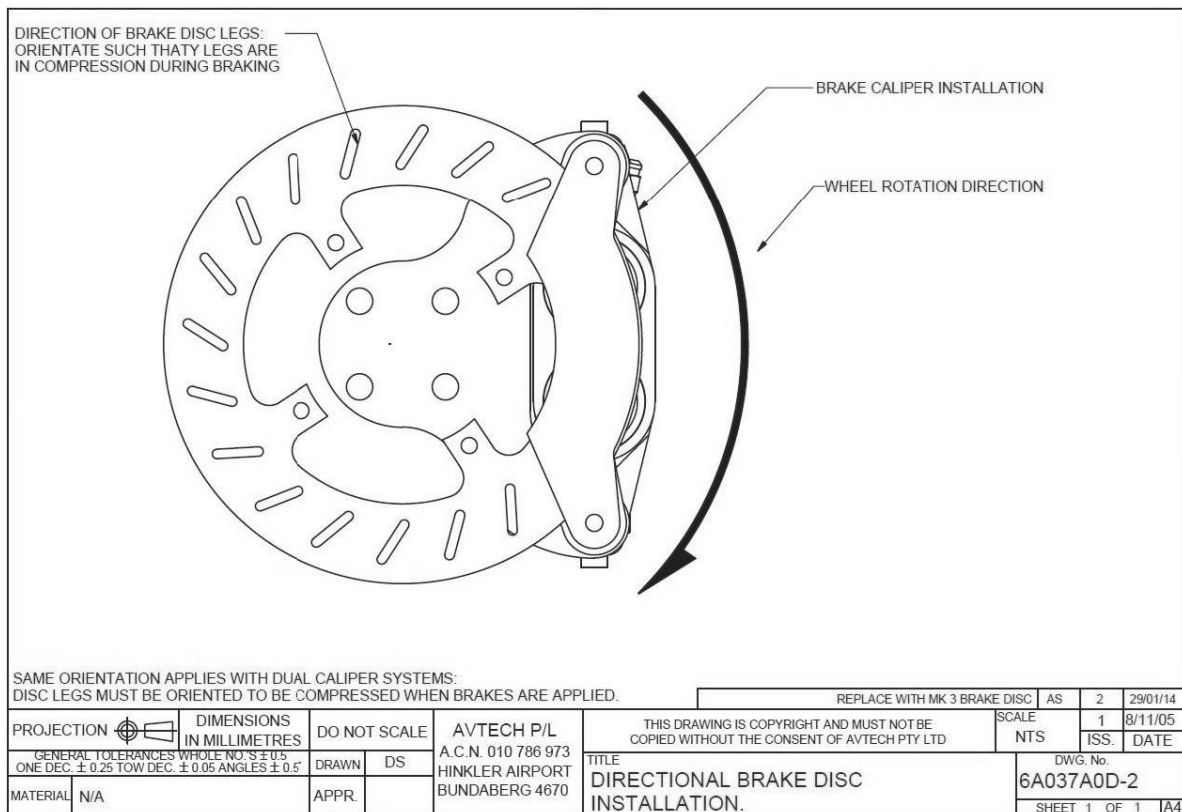

Figure 78 – Directional Brake Disc Installation (all J-Series)
- 9. Insert through-bolts through brake disc and position disc on the inner wheel hub flange. Note that if directional brake discs are fitted, the discs must be oriented in for the correct direction of rotation. Refer to Figure 78 below.